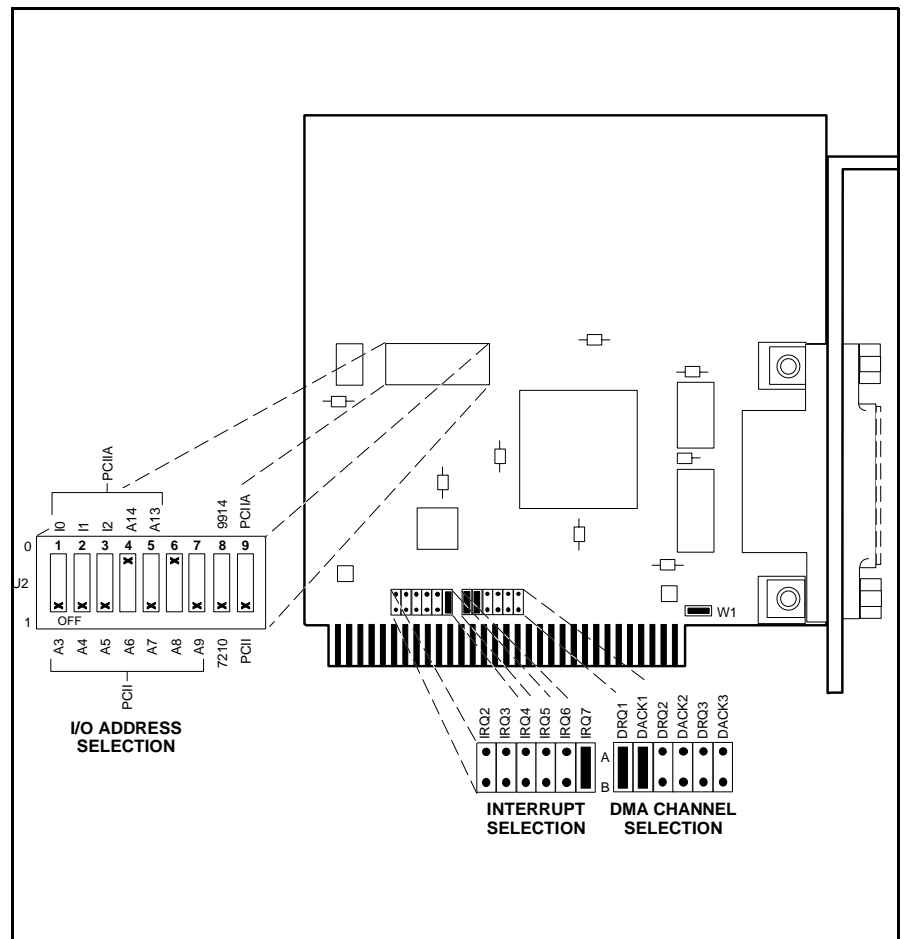

Figure C-3. GPIB-PCII/IIA Hardware Configuration
Step 1. Before installation, set the switches and jumpers on the GPIB-PCII/ IIA card as shown in the Figure C-3.